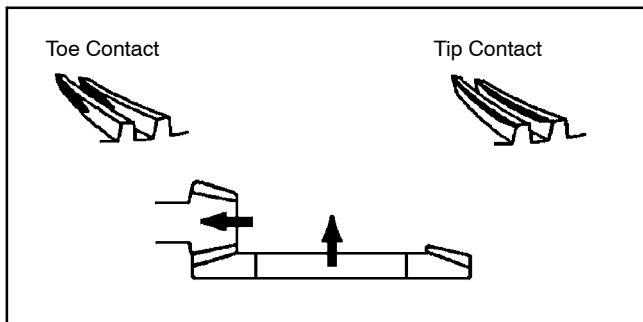

Figure 41
2. If contact is toward the toe or tip of the gear (Fig. 41):